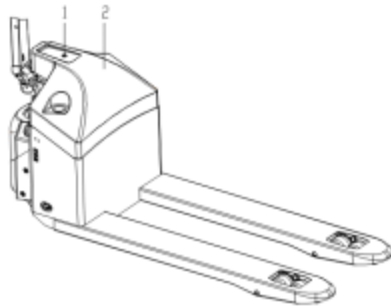

Fig. 11
- (Fig.11) Screw out the screw 1 and remove the cover 2;